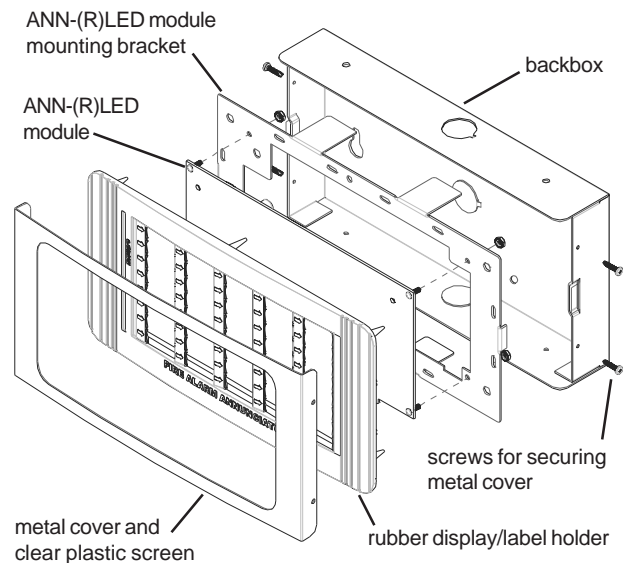

Figure 2: ANN-LED Series Exploded View
Figure 2 provides an exploded view of the ANN-LED Annunciator components.
The following steps describe the installation procedure for the ANN-LED Series annunciator. Refer to Figure 2 for component locations.
7. Reassemble the annunciator using **Figure 2: ANN-LED Series Exploded View** on page 1 as a guide.
1. Remove the four (4) screws securing the metal cover to the annunciator backbox, remove the cover with clear plastic screen and set aside.
2. Remove the rubber display/label holder, ANN-(R)LED module and mounting bracket as a single unit by sliding the two tabs on the side of the mounting bracket, away from the backbox. Refer to Figure 2 for component locations.
10. Reassemble annunciator using Figure 2 as guide.